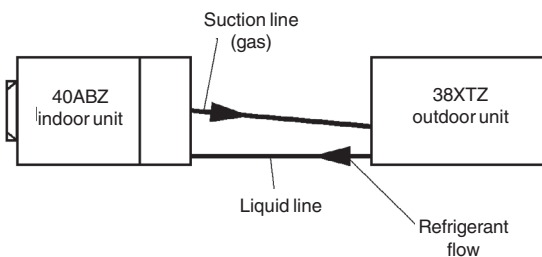

Fig. 47
- The outdoor and indoor units are on the same level (Fig. 47). First make an actual outline diagram of the lines and an exact calculation of the total equivalent length. If the diagram shows any level changes to overcome (beams and other structural elements) the resulting section (ascending and descending) must be included in the calculations. This means that for a gas pipe the diameter of the horizontal sections, the vertical ascending and descending sections must be calculated separately.